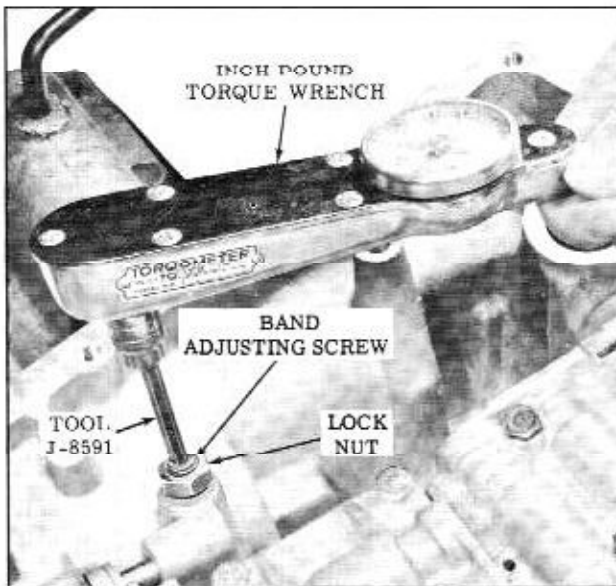

Fig. 3-121 Adjusting Band
59. With J-8591 and inch pound torque wrench torque the band adjusting screw to 100 inch pounds, and then back the screw off 2-1/4 turns. (Fig. 3-121)
Loosen the screw 2-1/4 complete turns and hold while tightening lock nut. Torque the lock nut 18-20 ft. lbs. (Fig. 3-121)